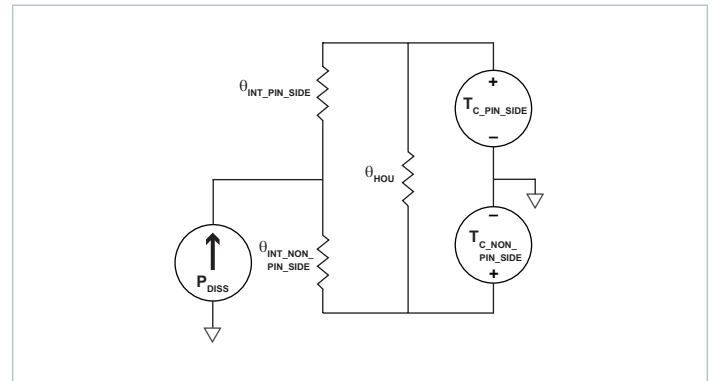
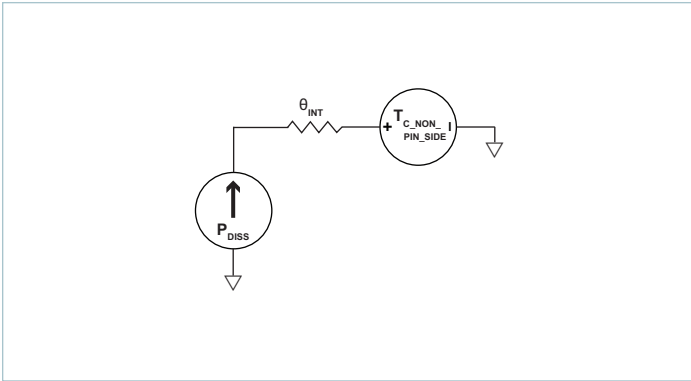

Figure 22 — Double-sided cooling thermal model
Figure 23 — Single-sided cooling thermal model
The VIA package provides effective conduction cooling from either of the two module surfaces. Heat may be removed from the pin-side surface, the non-pin-side surface or both. The extent to which these two surfaces are cooled is a key component for determining the maximum power that can be processed by a BCM, as can be seen from the specified thermal operating area in Figure 1. Since the BCM has a maximum internal temperature rating, it is necessary to estimate this temperature based on a system-level thermal solution. For this purpose, it is helpful to simplify the thermal solution into a roughly equivalent circuit where power dissipation is modeled as a current source, isothermal surface temperatures are represented as voltage sources and the thermal resistances are represented as resistors. Figure 22 shows the "thermal circuit" for the BCM in a VIA package.
- **Single-side cooling:** the model of Figure 22 can be simplified by calculating the parallel resistor network and using one simple thermal resistance number and the internal power dissipation curves; an example for non-pin-side cooling only is shown in Figure 23.